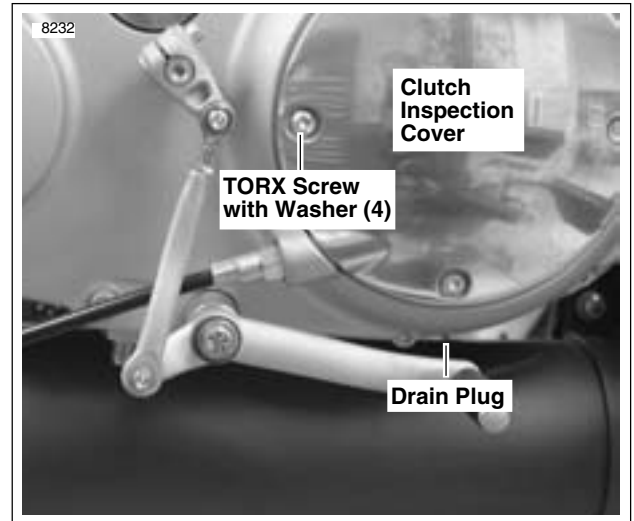

Figure 1-14. Primary Cover
3. See Figure 1-14. Position a suitable container under drain plug. Remove plug and drain fluid.
7. See Figure 1-14. Install clutch inspection cover using four TORX screws with washers. Replace quad ring if damaged. Tighten in a crosswise pattern to 7-9 ft-lbs (10-12 Nm).